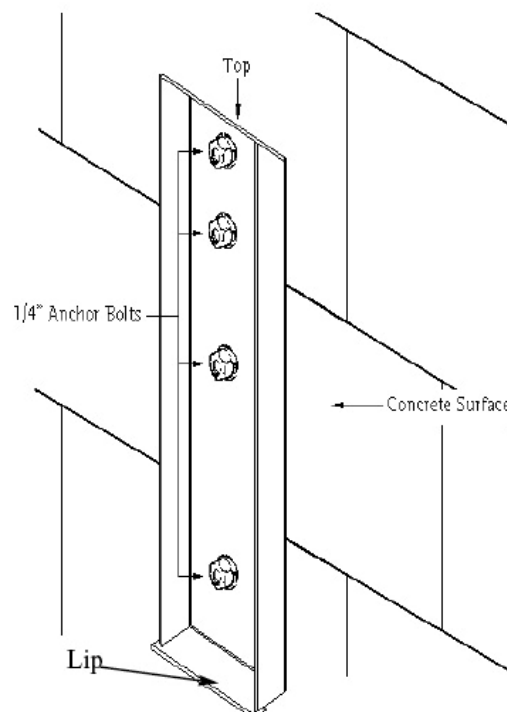

Figure 4. Backplate Installation - Concrete Surface
5. Place the backplate onto the concrete surface and slowly tighten each nut onto its respective anchor stud (Figure 4).